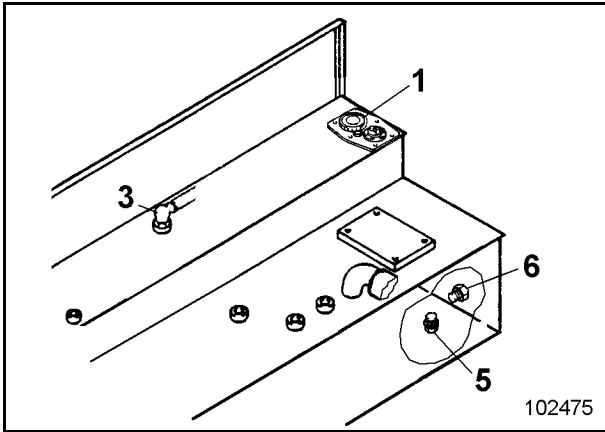

Fig. 3-43:
- Fill in fuel through the strainer in filler tube (1, Fig. 3-43:)